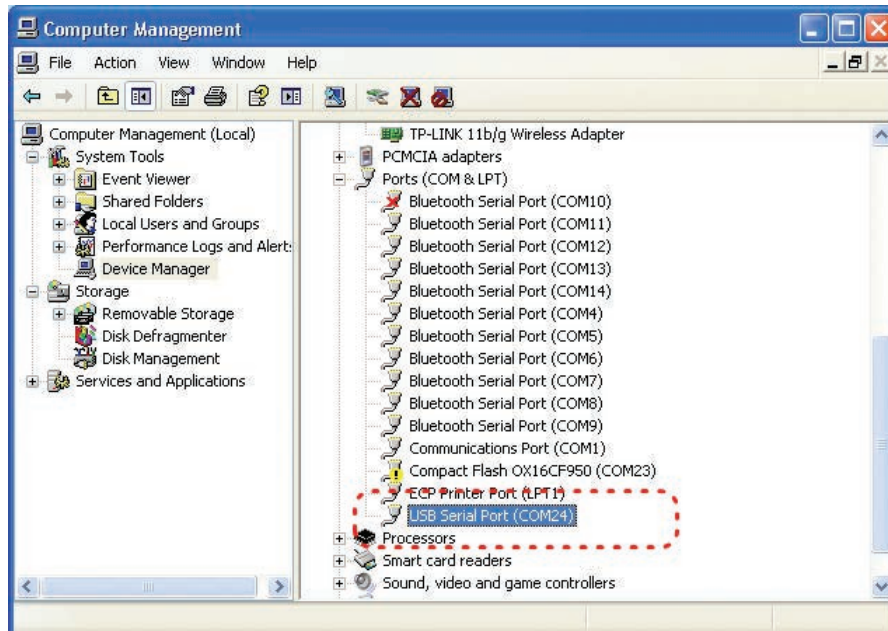

Figure 2.
**If using a USB Adapter**, the list of ports will be updated to reflect the new device. The LA GARD USB Interface Adapter can be identified in the list as **USB Serial Adapter**. The virtual COM Port assigned to the USB port where the Adapter is currently installed will follow the device description (Figure 2).
- If the COM port has been incorrectly set, return to the setup window (Figure 2), and reset the COM port to the correct one.